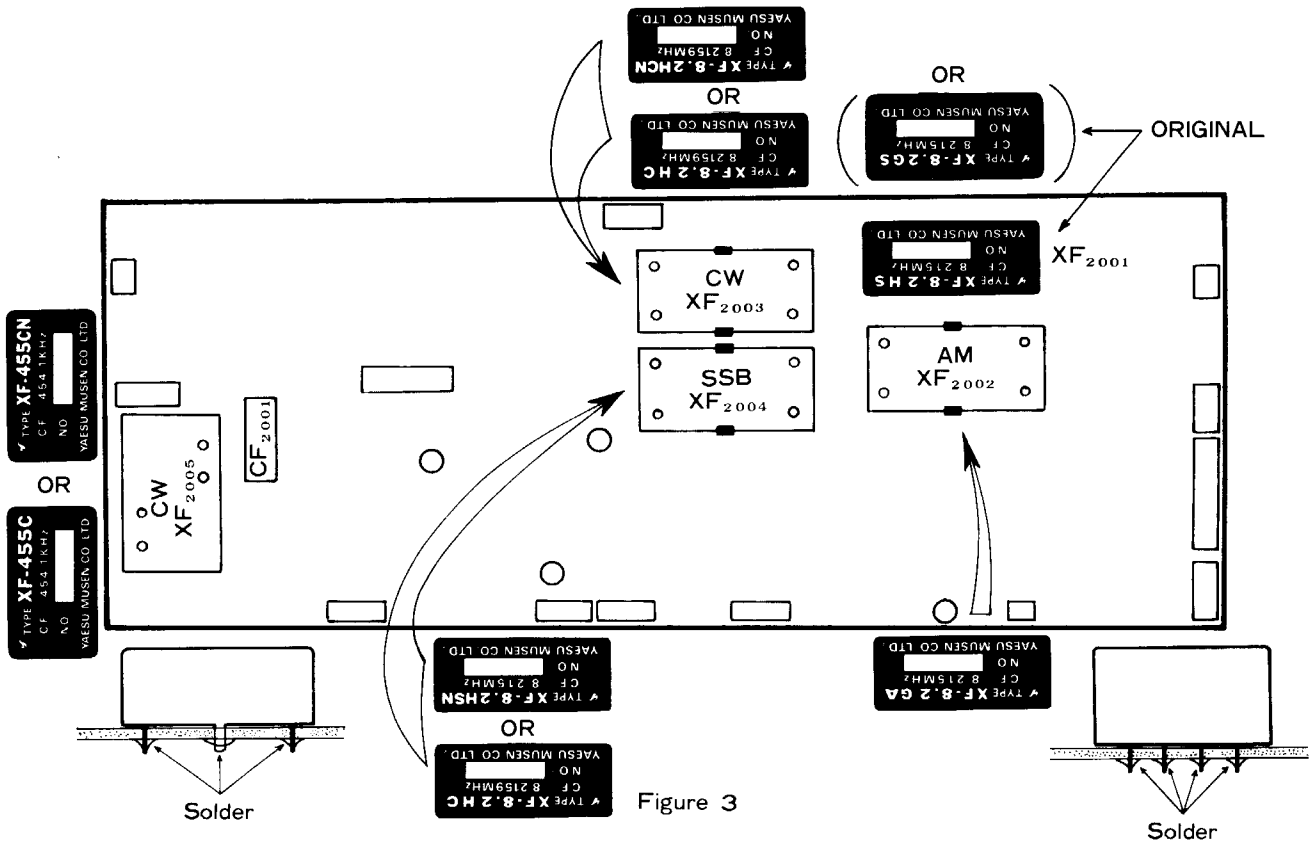

Figure 3
4. Referring to Figure 3, install the filters one at a time from the component side of the board, soldering each into place (from the solder side). Make sure to position the filter(s) label(s) facing as shown.